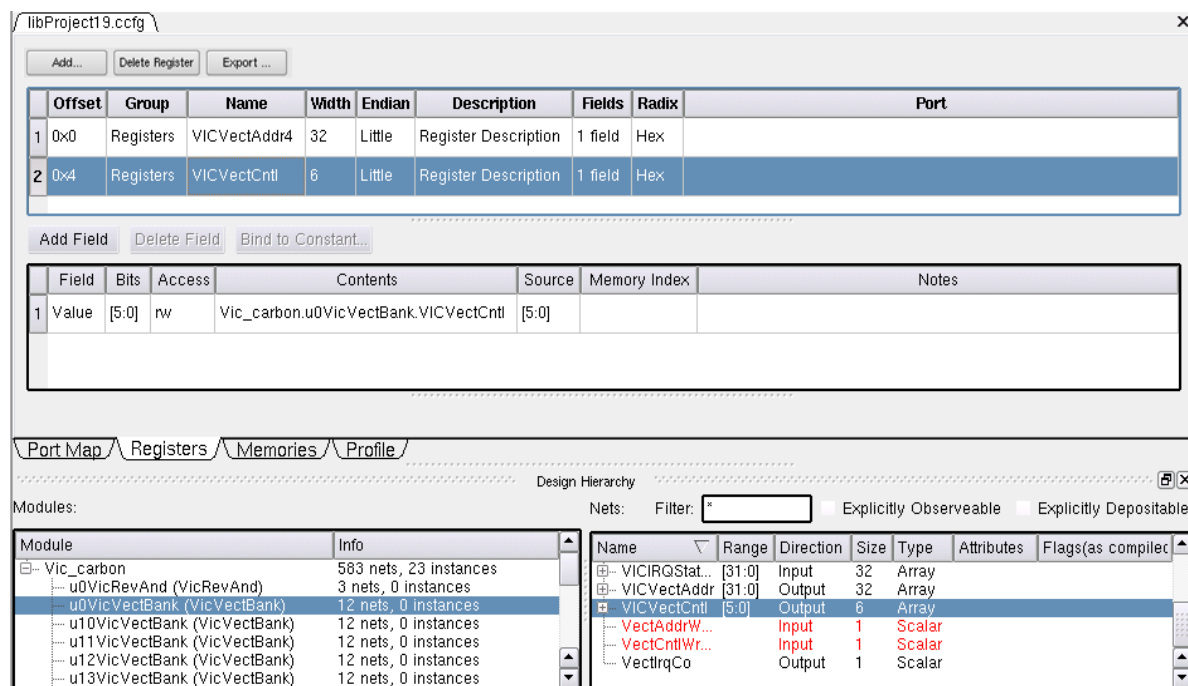

Figure 5-37 Drag Signal to Add a Register
1. Drag a signal from the *Design Hierarchy* view to the Register pane (Figure 5-37).